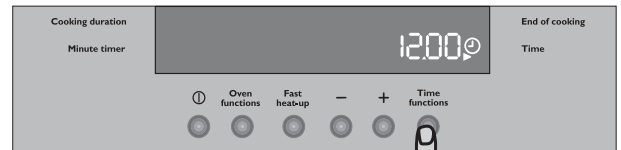
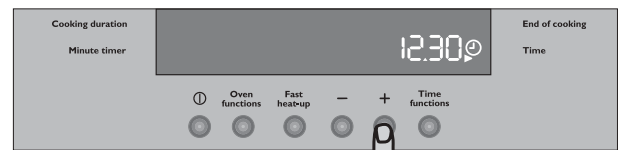

Fig. 1
Fig. 2
a) press Time function button and, while the symbol  is flashing (Fig. 1), set the correct time of day by pressing buttons “-” or “+” (Fig. 2).